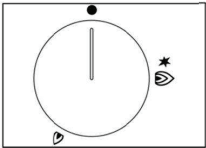

Fig. 18
- **Manual lighting (it is always possible even when the power is cut off):** Turn the control knob that corresponds to the burner selected anticlockwise, setting it to the MAXIMUM position at the etched star (large flame on the control knob (Fig. 18) and hold a lit match to the burner. Press the knob down and hold for 2 seconds after the burner ignites so the thermocouple heats up. Release the control knob and adjust to the correct setting.
- **Electric ignition:** Turn the knob that corresponds to the burner selected anticlockwise, setting it to the MAXIMUM position (large flame on the control knob (Fig. 18). Keep pressing the knob down at
- When the liquid is boiling turn the knob to the MINIMUM position (small flame Fig. 18).